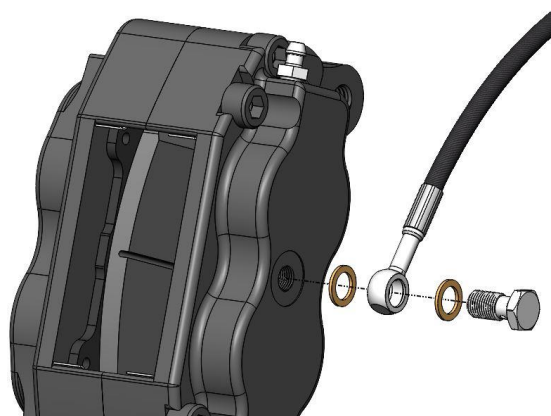

Figure 5a – Stainless Steel Braided Hose Installation
8. Install the Stainless Steel braided hose using one copper crush washer on each side of the banjo fitting. When installed properly the banjo fitting that is crimped onto the hose will point towards the front of the vehicle. Secure the opposite end of the hose to the OEM brake line mounting location on the backing plate using the supplied the hose lock. Torque the banjo bolt to 20-27 Nm (15-20 ft/lbs). Refer to Figures 5a and 5b below for proper brake hose mounting.